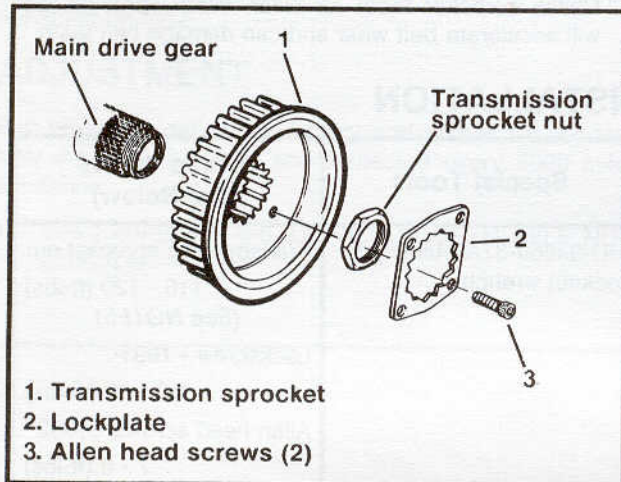

Figure 6-7. Transmission Sprocket - 1992
- 2A. See Figure 6-7. On 1992 models, remove allen bolts (3) and lockplate (2). Apply rear brake and remove the sprocket nut using MAINSHAFT LOCKNUT WRENCH, Part No. HD-94660-37A.
4. See Figure 6-7. Place transmission sprocket (1) in position. Use Loctite 262 (red) and install sprocket nut. Tighten nut to 110 - 120 ft-lbs torque.
5. Place the lockplate (2) in position over the nut so the lockplate screw holes and transmission sprocket screw holes line up.